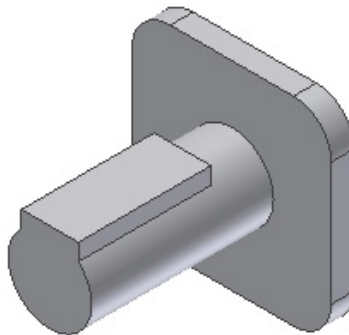

Figure 7-68 Model after creating the first rectangular feature
4. Invoke the **Extrude** tool and then extrude the sketch to a distance of 76 mm, as shown in Figure 7-68.